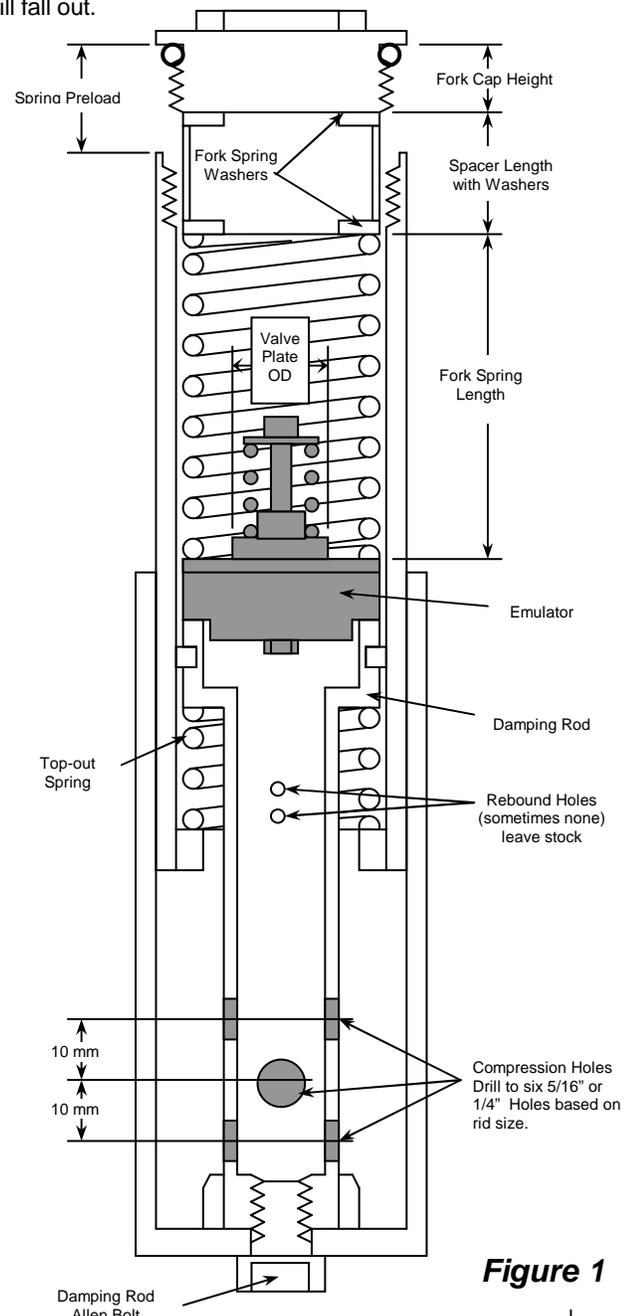

Figure 1
2 **Check the fit of the Gold Valve Emulator** by placing it on top of the damping rod. The step on the Emulator must sit into the large hole in the top of the damping rod and must completely cover it so there is no blow-by (figure 1).
- Check the inner diameter of the fork spring** must be at least 4 mm (0.160") larger than the Emulator Valve Plate itself for proper flow (figure 1).
Enlarge existing compression holes and add holes if necessary so you end up with six holes (3 sets of 2 holes) (figure 1).
New holes should be spaced axially (lengthwise) above the existing holes at 10 mm (7/16") increments. Each set of two holes must be perpendicular to the last set so as not to weaken the rod (figure 1). After drilling, chamfer and deburr the compression holes, inside and out. **Do not add or enlarge the rebound holes and leave their edges sharp if any exist.**
- a. Drop the Emulator down the tube. It sits on top of the damping rod with the Emulator Valve Spring facing up and is held in place with the main fork spring. Refer to figure 1. Visually check to make sure the Emulator is sitting squarely on top of the damping rod or the adapter.
- c. Set the fork cap on the washer and determine the preload by measuring from the top of the fork tube to the sealing lip on the fork cap (see figure 1). This is a direct measurement of fork spring preload. Adjust the spring spacer tube length to achieve the proper preload. See the DVS Setup Sheet.